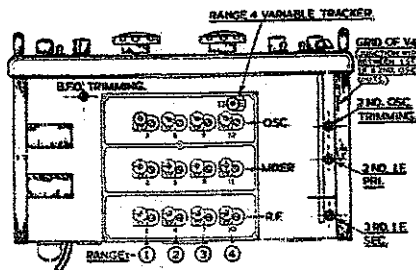

Fig. 3
Leaving the controls and connections undisturbed, the input frequency should be changed to 1620 Kc/s. and the second oscillator adjusted, by moving the core in the V4 screening can (see Fig. 3), until output is maximum. Because of the slight loss in conversion, a greater input (by some 2 or 3 db) will be required to give 50 milliwatts output. The change to 85 Kc/s. can be obtained with the oscillator on either the high or the low side of 1620 Kc/s. and two positions of oscillator core will give output --- the lower frequency position, with the core furthest in, is the correct one.
With the BFO switch at "off," a modulated signal should be applied and tuned in accurately on the receiver. The modulation is switched off, the BFO switched on and, with the pitch control at half-mesh (white spot at top), the core in the BFO unit (see Fig. 3) is set to give zero beat.
The controls remain as before but with the RF gain also turned to maximum. Should it be found necessary to correct discrepancies in the scale calibration, the output from a Crystal Frequency Standard should be applied to the aerial terminals (the calibration of most Signal Generators is not accurate enough). Adjustment is then made to the cores and trimmers appropriate to each range, in the oscillator section of the coil box (see Fig. 3). Checks and adjustments should be made at the frequencies given below, using the TRIMMER CONDENSER at the higher frequency end of the scale and the CORE at the lower frequency end. The BFO should be switched on for these tests, with the pitch control at "12 o'clock." The
ceramic tracker condenser shown in Fig. 3 has been very carefully adjusted for proper tracking on Range 4 and it is not advisable to touch it.
* As specified under the chassis (see Fig. 3)